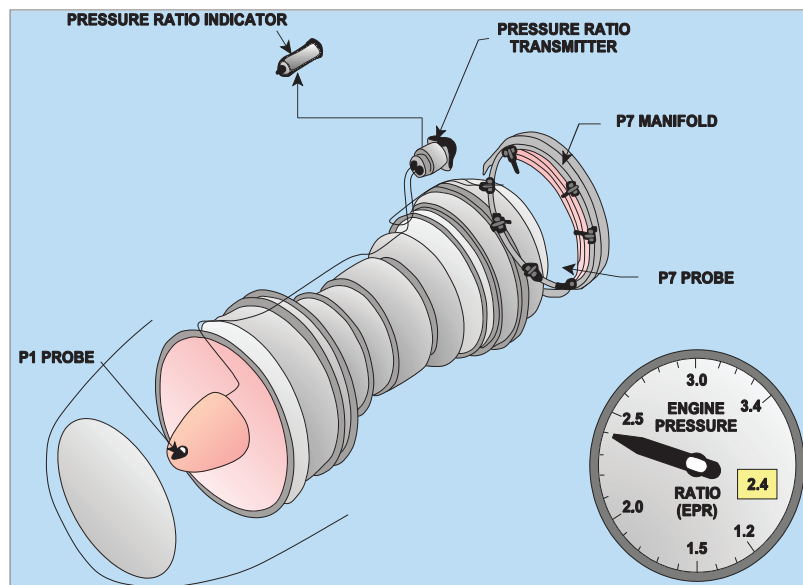

Figure 38.2 The engine pressure ratio (EPR) indicating system
- the type that measures the ratio of two parameters, the jet pipe pressure and the engine air intake pressure, the **EPR gauge**. (*Figure 38.2*)